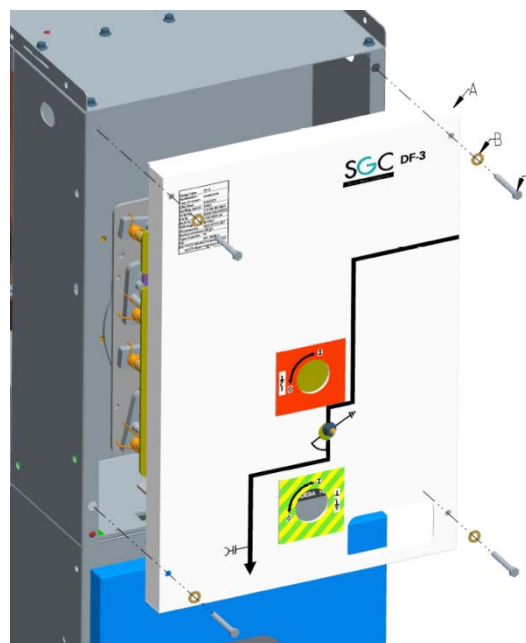

Figure 6: Disassembling front panel of DF-3 cubicle
- Disassemble the front panel of the second cubicle (Figure 6):